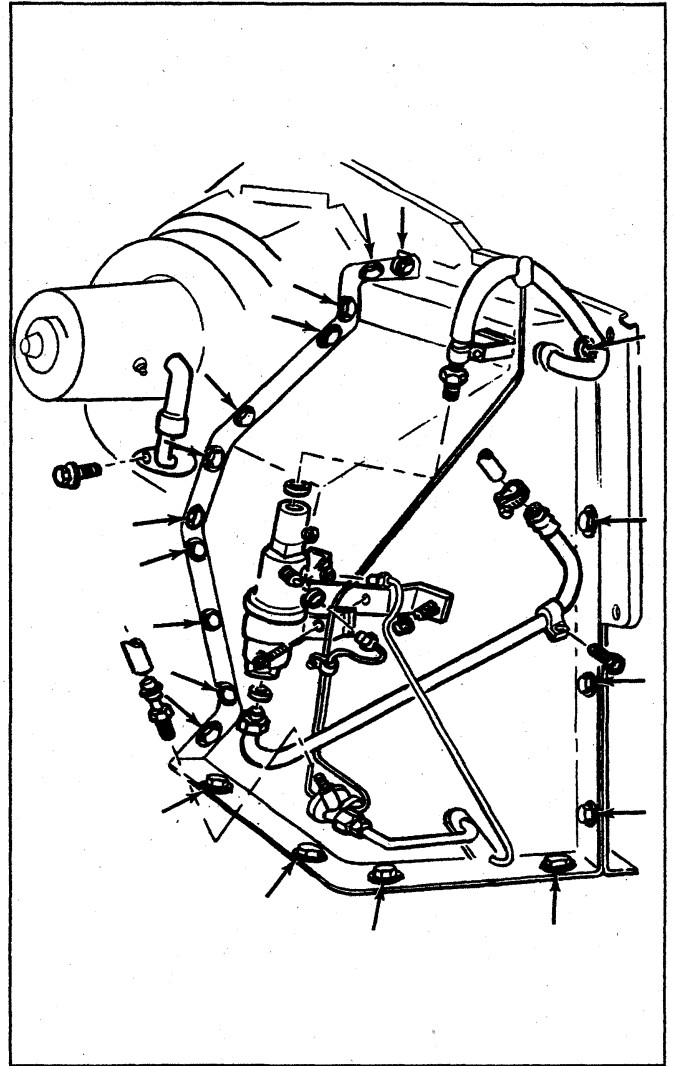

Fig. 79—Evaporator Core Removal (Corvette)
9. Remove the screws attaching the evaporator case cover to the case. See Fig. 79. The core is bracket mounted to the cover and the entire core and cover assembly may now be removed from the vehicle.